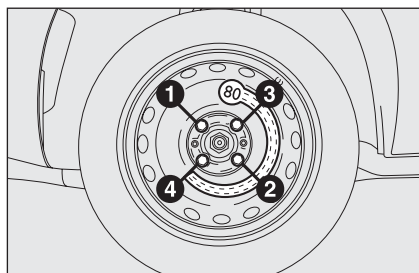

fig. 14
- ☐ Using the wrench provided, tighten up the wheel bolts in a criss-cross fashion following the sequence shown **fig. 14**.